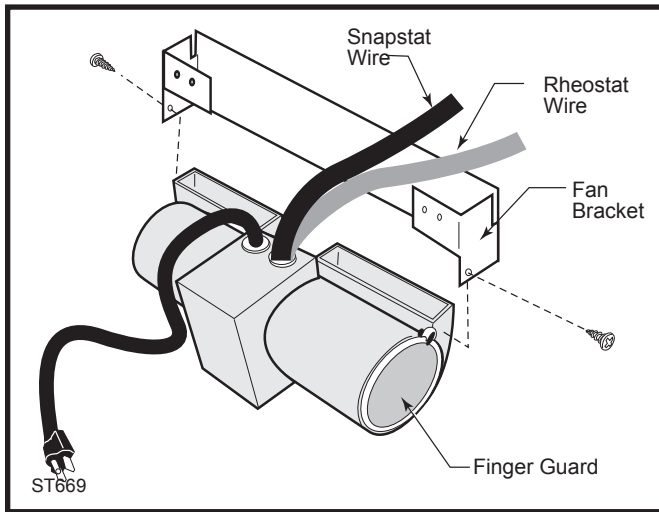

Fig. 10 Attach the fan assembly to the fan bracket.
4. Attach the fan assembly to the fan bracket provided in the log box. Use #10 sheet metal screws provided with fan kit. Do not remove finger guard screws. (Fig. 10)